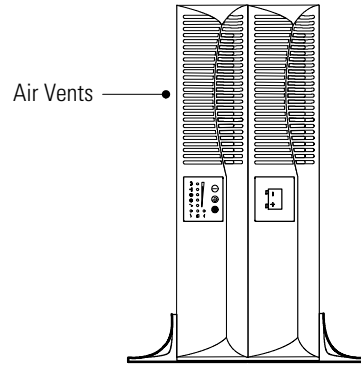
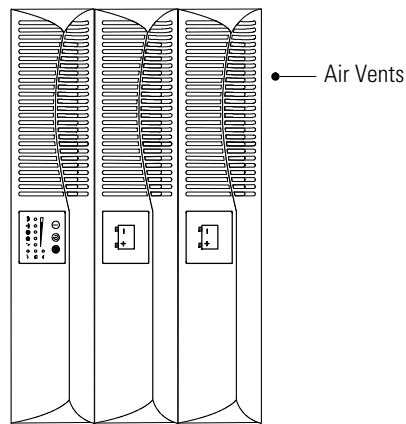

Figure 4. Pedestals with Two Cabinets
Figure 5. Tower Cabinet Setup
5. Carefully position the cabinets upright with the air vents at the top (see Figure 4 or Figure 5).